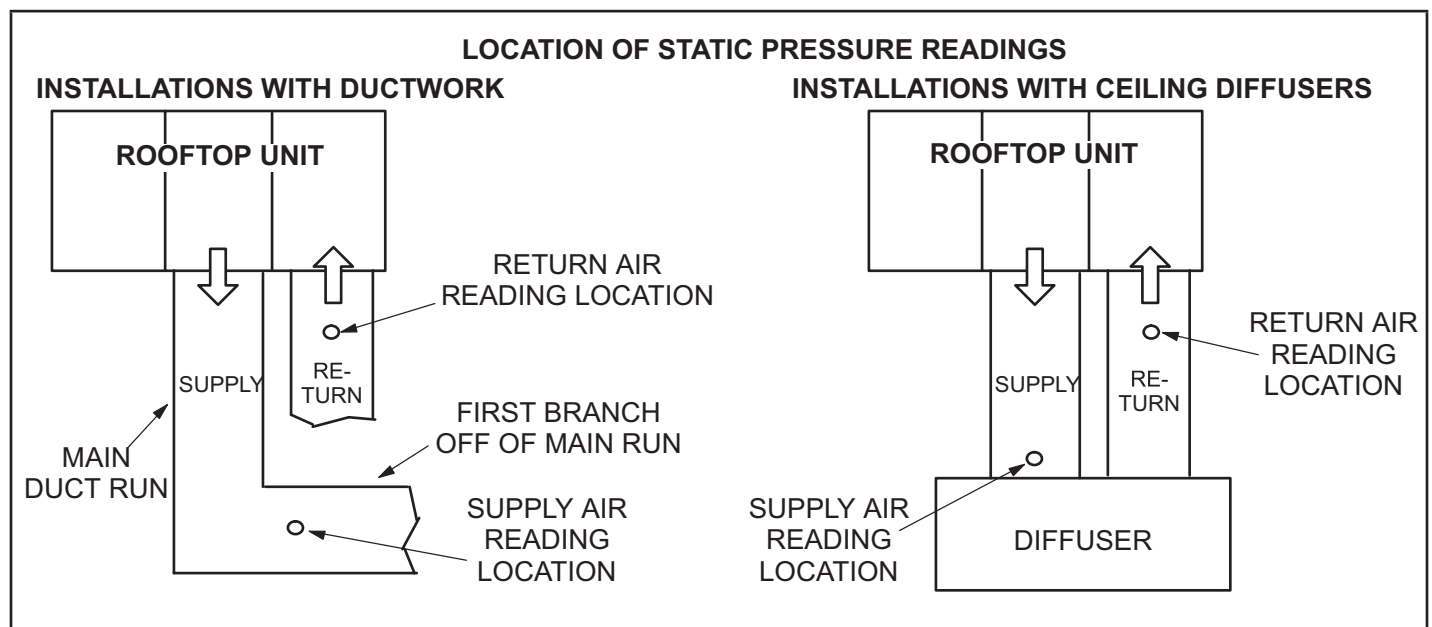

FIGURE 16
- 2 - With all access panels in place, measure static pressure external to unit (from supply to return). Blower performance data is based on static pressure readings taken in locations shown in FIGURE 16.